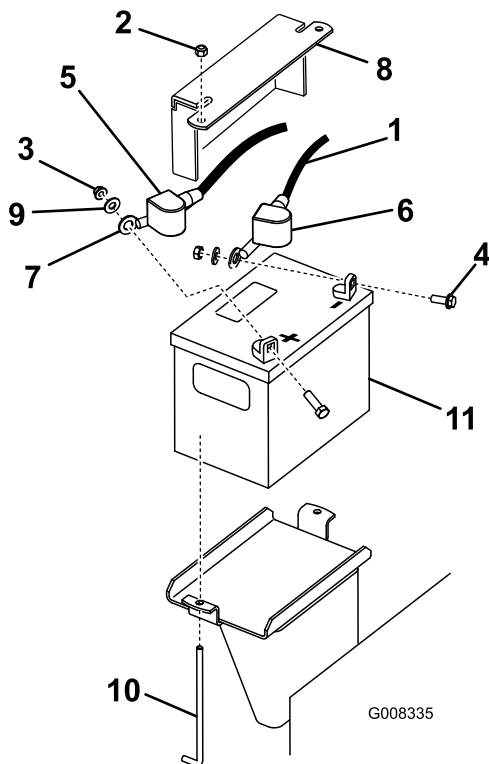

Figure 41
3. Lift the black rubber cover on the negative cable. Disconnect the negative battery cable from the negative (-) battery terminal (Figure 41).
5. Remove the hold down plate, j-bolts, and locknuts securing the battery (Figure 41) and remove the battery.
1. Place the battery onto the machine (Figure 41).
3. First, install the positive (red) battery cable to positive (+) battery terminal with a nut, washer and bolt (Figure 41). Slide the rubber cover over the post.
4. Then install the negative battery cable and ground wire to the negative (-) battery terminal with a nut, washer and bolt (Figure 41). Slide the rubber cover over the post.
4. Slide the red terminal boot off the positive (red) battery terminal. Then remove the positive (red) battery cable (Figure 41).